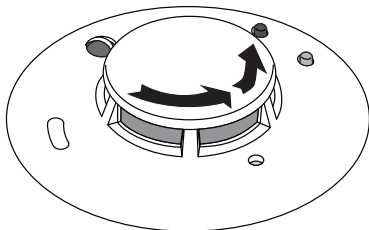

Figure 7: Remove Detector Cap
4. Grasp the detector cap, gently twist to the left, and then lift up. See Figure 7.